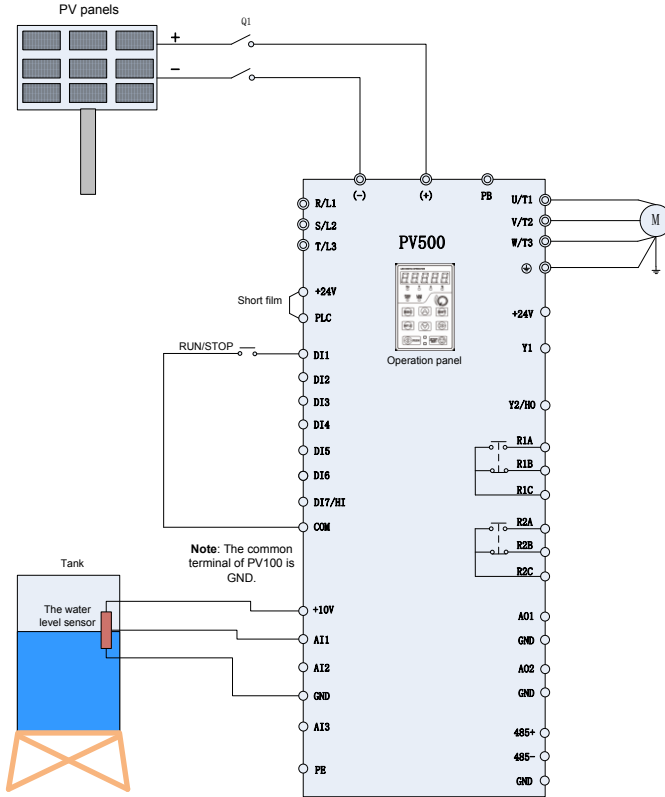

Figure 2-1 PV500 Cell Power Supply Wiring Diagram
1. Wiring drawings of below inverters shown as Figure 2-1&2-2: PV150 series, PV500 series.
1. Please wirings as Figure2-1&Figure2-2 according to different inverter powers, check and confirm the wirings to be correct, and then close Q1.